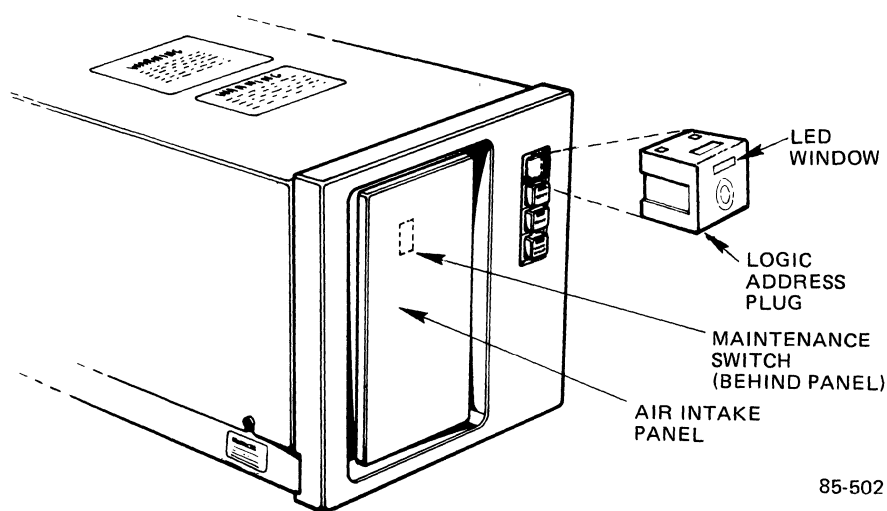
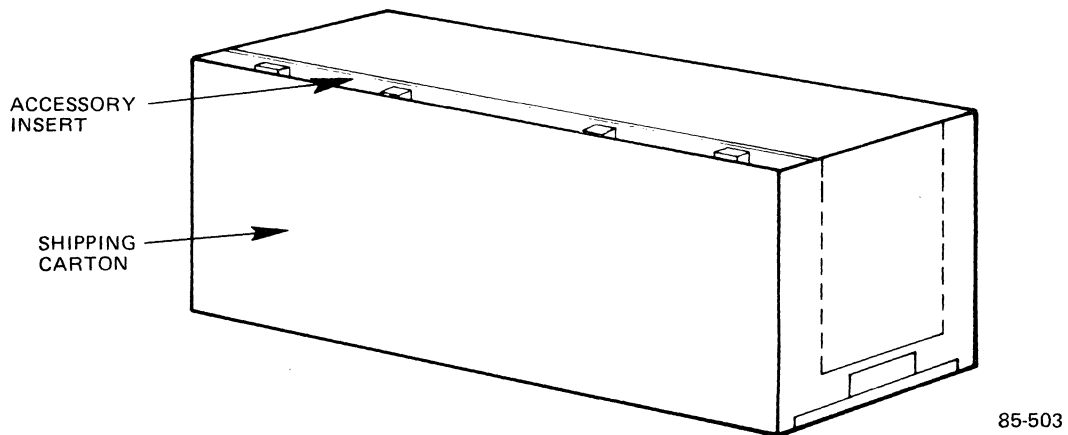

Figure 2-32. Disk Drive Front Panel
Figure 3-1. Shipping Carton
This switch is used for self-test purposes and is available only on the 413-megabyte drive. It is located at the front of the disk drive behind the air intake panel (see Figure 2-32). Remove the panel, which easily pops off, remove the filter, and ensure that the toggle switch is in the down position. Replace the filter and then replace the panel.
To install the logic address plug (see Figure 2-32) to the disk drive, perform the following steps:
3. Install the logic address plug to the front of the disk drive so that the LED window is at the top of the plug (see Figure 2-32). Ensure that the plug is flush with the other buttons on the drive front panel.
1. Remove everything from inside the shipping carton except the accessory insert (see Figure 3-1).
2. Remove the logic address plug from the disk drive front panel (see Figure 2-32) and store it in the accessory pocket in the shipping carton (see Figure 3-1).